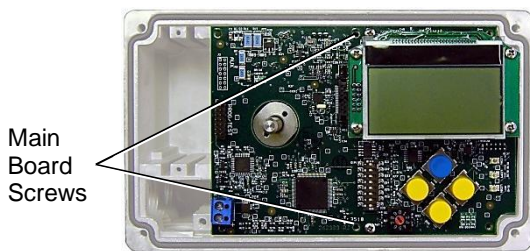

Figure 49: Main Board Screws
- 4 Unscrew the 4 screws holding the LCD Board in place. See Figure 49.